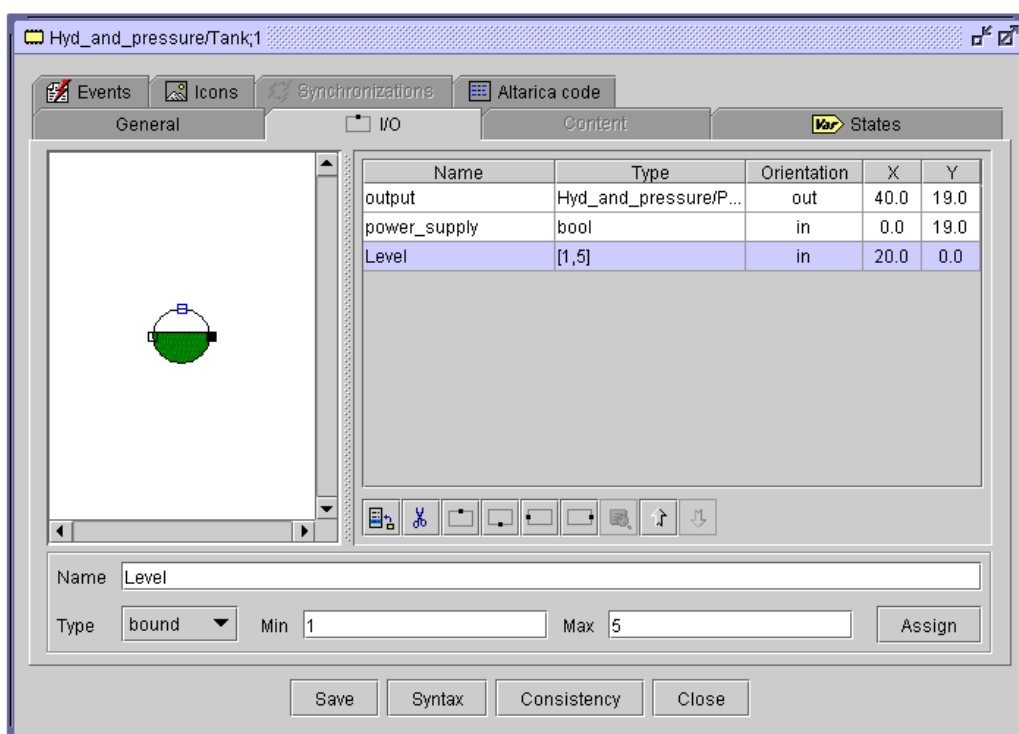

Figure 50 : I/O tab – Bound variable
- * **bound:** variable whose value varies between a minimum value and a maximum value (Figure 50),